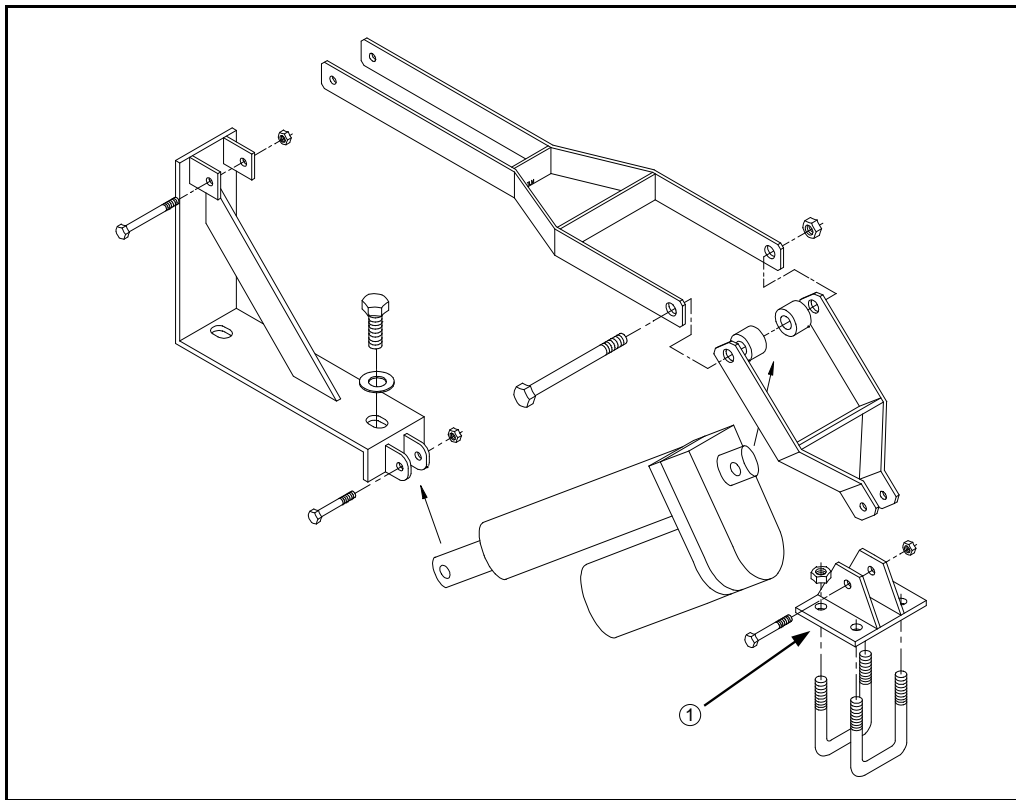
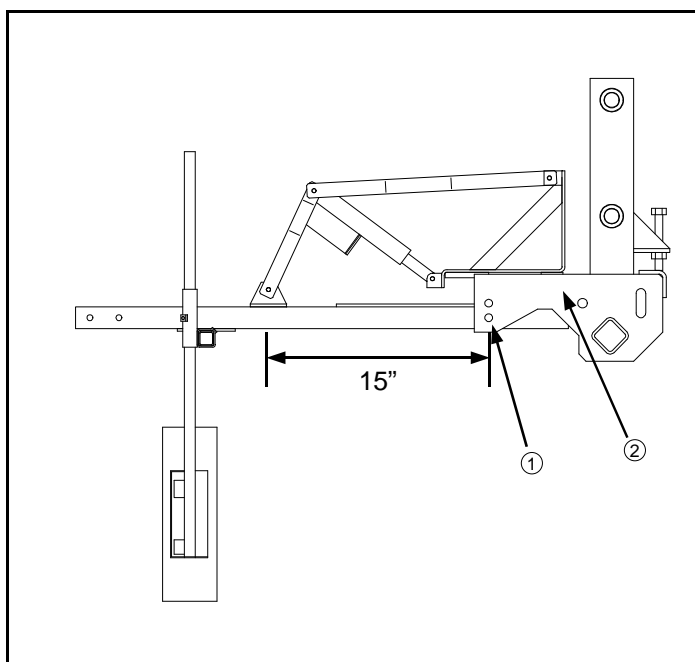

FIG 4.25
FIG 4.26
1. Attach the depth command actuator assembly (fig. 4.25) to the tool bar (fig. 4.26, item 2).
2. Attach the adjustable slide mount (fig. 4.25, item 1) to the sensor arm approximately 15 inches away from the sensor arm pivot (fig. 4.26, item 1). This should give you equal travel distance up and down of the actuator.
Over tightening of the sensor arm pivot mounting bolt (fig. 4.26, item 1) may cause the actuator to stall.